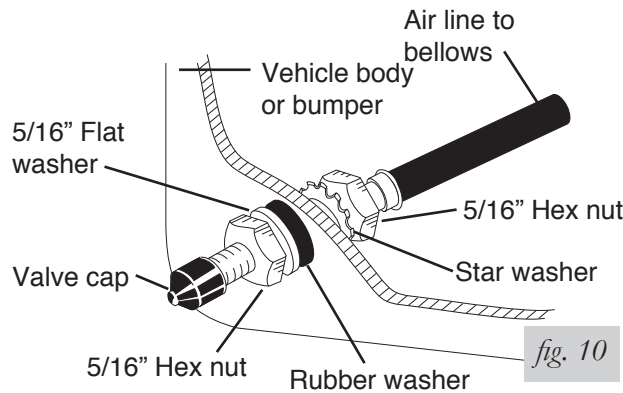

fig. 10
- Place a 5/16" nut and a star washer on the air valve. Leave enough of the inflation valve in front of the nut to extend through the hole and have room for the rubber washer, flat washer, and 5/16" nut and cap. There should be enough valve exposed after installation - approximately 1/2" - to easily apply a pressure gauge or an air chuck (Fig. 10).
- Push the inflation valve through the hole and use the rubber washer, flat washer, and another 5/16" nut. Tighten the nuts to secure the assembly in place (Fig. 10).